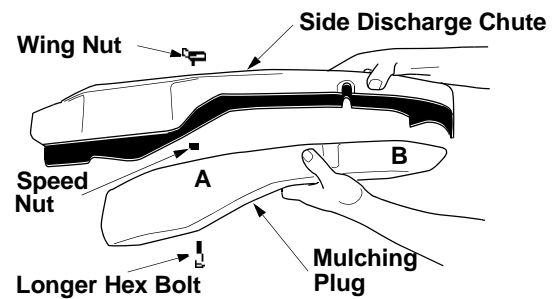

Figure 5
- Put two hex bolts through the mulching plug at the respective openings. See Figure 5 .
- Place wing nut on each of the hex bolts and thread a few turns. See Figure 5 . Check that the mulch plug is aligned correctly within the discharge chute. Tighten both wing nuts